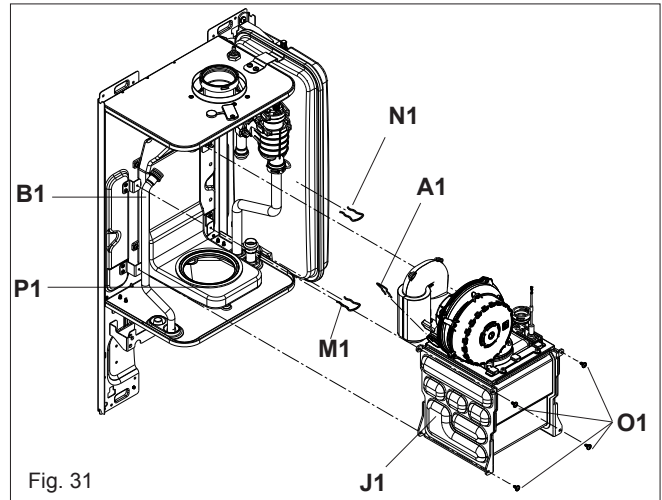

Fig. 31
6.16 MAIN HEAT EXCHANGER (fig. 31)